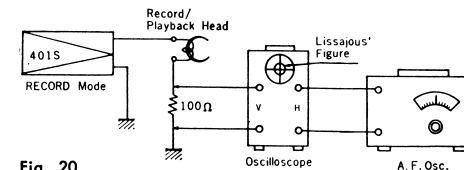

Fig. 20
Measuring Circuit: Refer to Fig. 20.
- As shown in Fig. 20, insert a 100 Ω Resistor to ground Lead Wire of Record/Playback Head. Connect vertical Axis of Oscilloscope across Resistor. Connect horizontal Axis of Oscilloscope